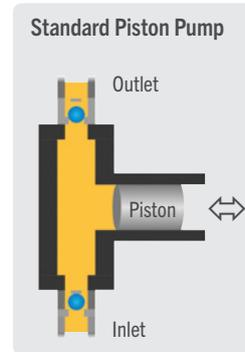

Fig. 2
Positive displacement (PD) pumps are preferred when handling high pressure at high efficiencies. The principle of a reciprocating PD pump is shown in Fig. 2. The piston is moved by a mechanical crank shaft gear and continuously changes the volume in the pump head. Two check valves at the pump head provide flow in one direction, only. Flow is not continuous: When the piston moves towards the gear side (suction stroke), the pump head is filled with medium through the lower check valve. When the piston moves towards the pump head, the lower check valve closes and the flow is directed through the upper (discharge) valve into the (pressurised) system. The flow curve follows the motion (displacement) of the piston, thus showing a sinusoidal flow (discharge phase) followed by a phase without flow (suction phase).